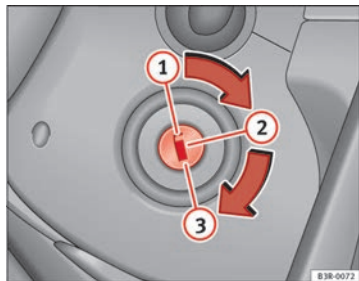

Fig. 86 Ignition key positions
- Remove the key from the ignition in position 1 ⇒ Fig. 86 ⇒ ⚠.